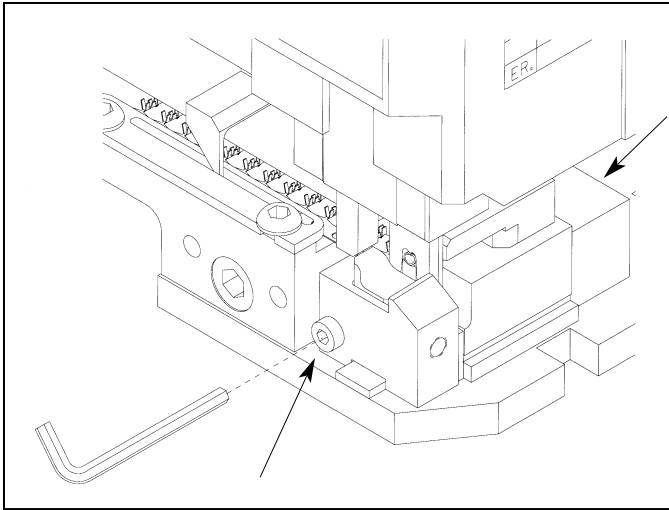

Figure 2.2.3.2 Anvil Alignment
- 2.2.3.2 With a terminal in position over the anvils slightly release, both the front and the back, anvil mounting screws. (Refer to Figure 2.2.3.2 Anvil Alignment)